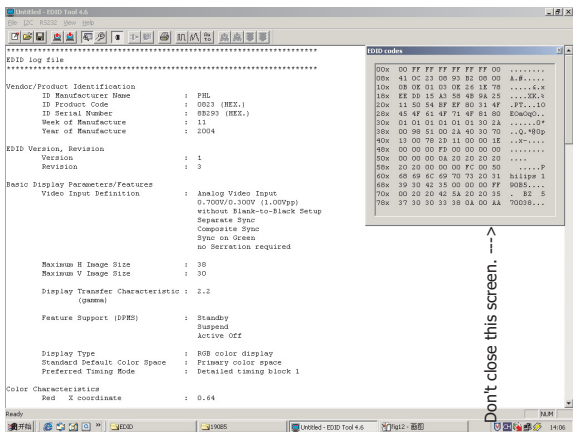

Fig. 13
- 4. Click icon (Read EDID function) to read DDC EDID data from monitor. The EDID codes will display on screen as shown in Fig. 13.